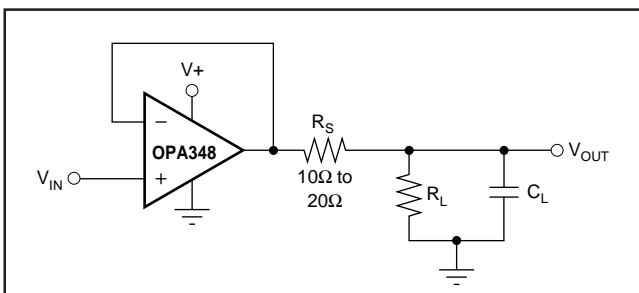

FIGURE 5. Series Resistor in Unity-Gain Buffer Configuration Improves Capacitive Load Drive.
The OPA348 in a unity-gain configuration can directly drive up to 250pF pure capacitive load. Increasing the gain enhances the amplifier’s ability to drive greater capacitive loads (see the typical characteristic “Small-Signal Overshoot vs Capacitive Load”). In unity-gain configurations, capacitive load drive can be improved by inserting a small (10Ω to 20Ω) resistor,  $R_S$ , in series with the output, as shown in Figure 5. This significantly reduces ringing while maintaining DC performance for purely capacitive loads. However, if there is a resistive load in parallel with the capacitive load, a voltage divider is created, introducing a Direct Current (DC) error at the output and slightly reducing the output swing. The error introduced is proportional to the ratio  $R_S/R_L$ , and is generally negligible.